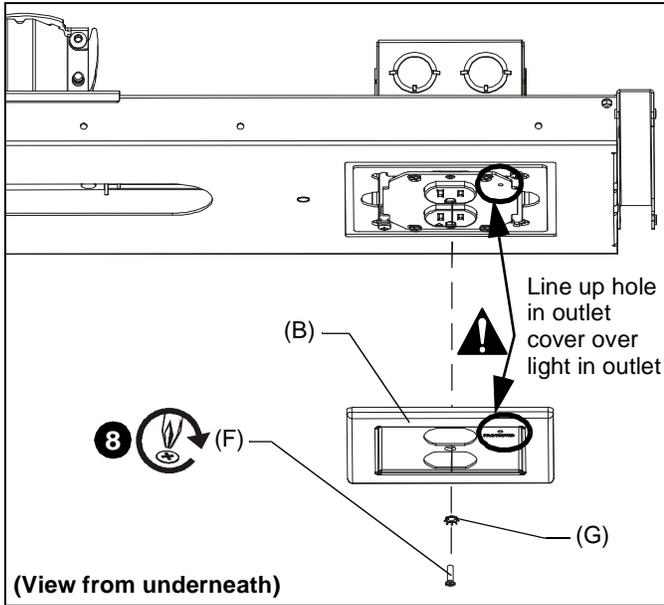

Figure 5
- Install outlet cover (B) over outlet box using one 6-32 x 1/2" Phillips flat head screw (F) and one #06 lock washer (G). (See Figure 5)